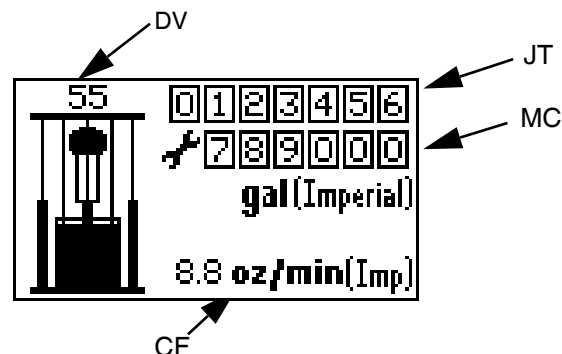

FIG. 19: Run Mode Screen
3. The Splash screen (FIG. 18) will flash on while the progress bar fills from left to right. It will then go directly to Run mode (FIG. 19).
See FIG. 16 and FIG. 19.
2. While in Prime Mode, the job total counter (JT) is blank and will not count. However, the maintenance counter (MC) will continue to decrement.
3. When a new drum is installed, press and hold  while in Prime Mode to reset the drum volume remaining (DV) to the drum fill volume (DF).
4. To exit Prime Mode, press . The Prime symbol will disappear and the LED will stop flashing; the screen will return to Run Mode (FIG. 19).
If a key is not pressed within one minute of entering a setup screen, the system will return to Run Mode (FIG. 19).
- a. Press and release  to enter Diagnostic Mode from Run Mode (FIG. 19).